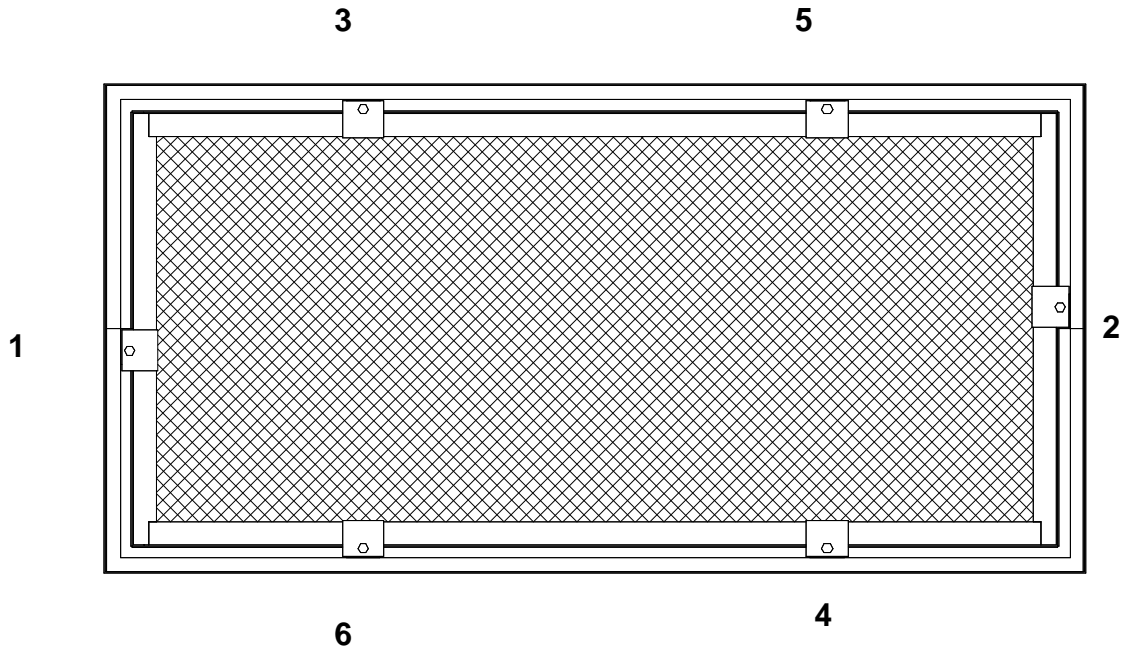

Figure 4
- Step 6.** Install filter clips and screws, hand tight (until gasket compression begins) in the order shown in Figure 4. After all six clips are hand tight, tighten screws to create 50% compression (0.25") on the gasket, using the same order.